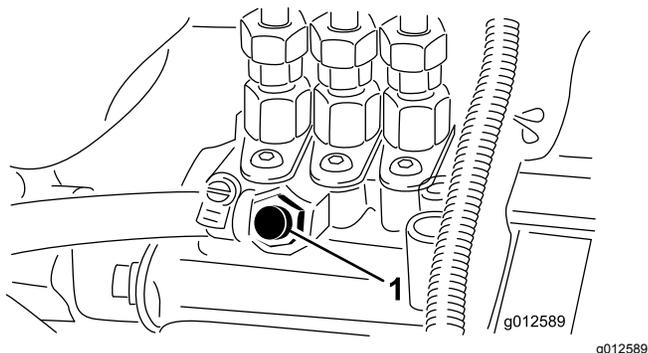

Figure 31
5. Open the air-bleed screw on the fuel-injection pump (Figure 31).